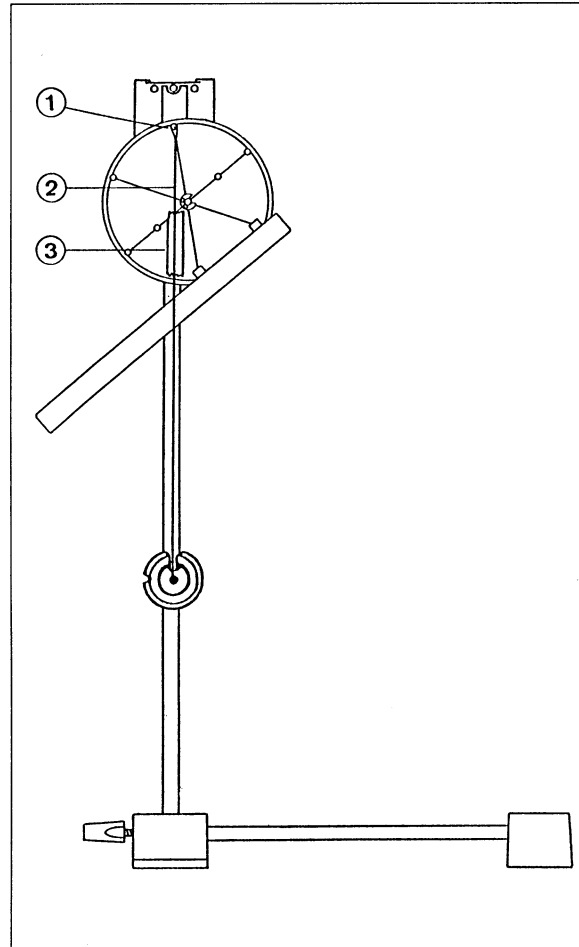
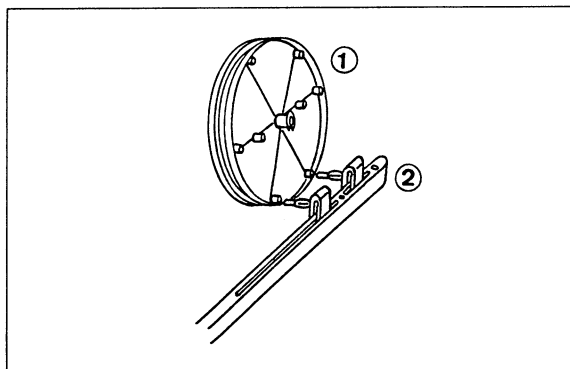
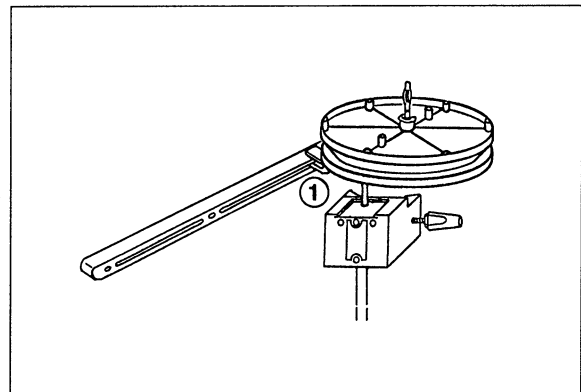

Fig. 3 Experimental setup as in fig. 1, with a composite body ► Fig. 4
Fig. 4 Creating a body from a pulley (1) and a pulley bridge (2), attached to (1) by two retaining clips.
Fig. 5 Balancing the body composed of a pulley and pulley bridge on a spindle (1).
► Fig. 3 and fig. 4
5. Attach the pulley bridge to the big pulley using two retaining clips, as shown in fig. 4.
6. Push the entire assembly onto the spindle (1), as shown in fig. 3.
7. Hang the plumb line (2) from (1) and attach the paper strip (3) to the big pulley as shown in fig. 3.
8. Make sure the cord (2) is hanging in such a way that it is positioned directly in front of the stand rod ► Fig. 3.
keeping a body in equilibrium ► Fig. 5**
13. Remove the body from the spindle (1) (in fig. 3) and plug the spindle into the hole in the top of the sleeve block. ► Fig. 5